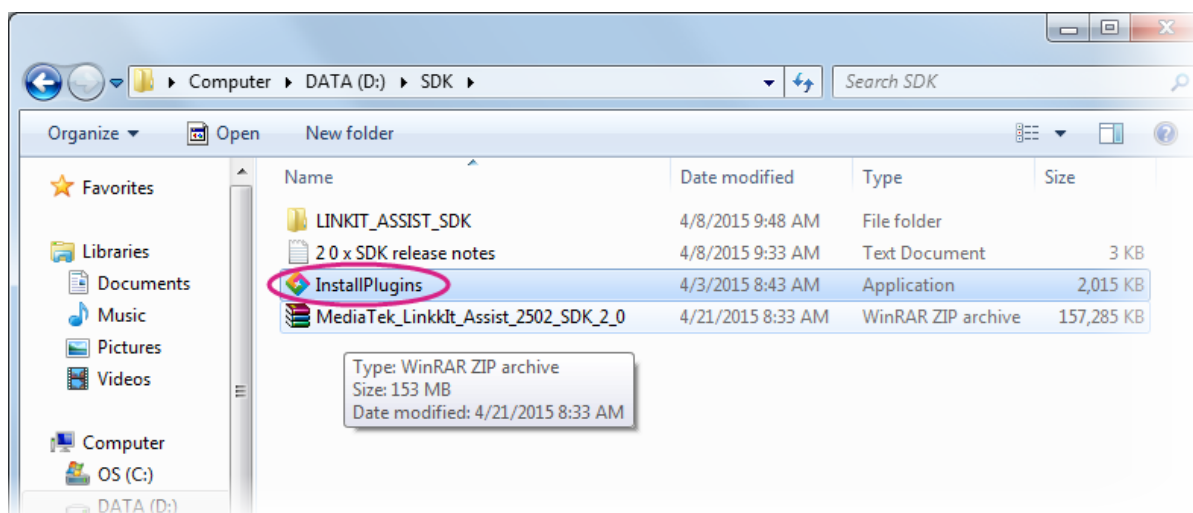

Figure 6 The LinkIt Assist 2502 SDK 2.0 installation application
- 4) Double click the LinkIt Assist 2502 SDK 2.0 InstallPlugins as shown in Figure 6.